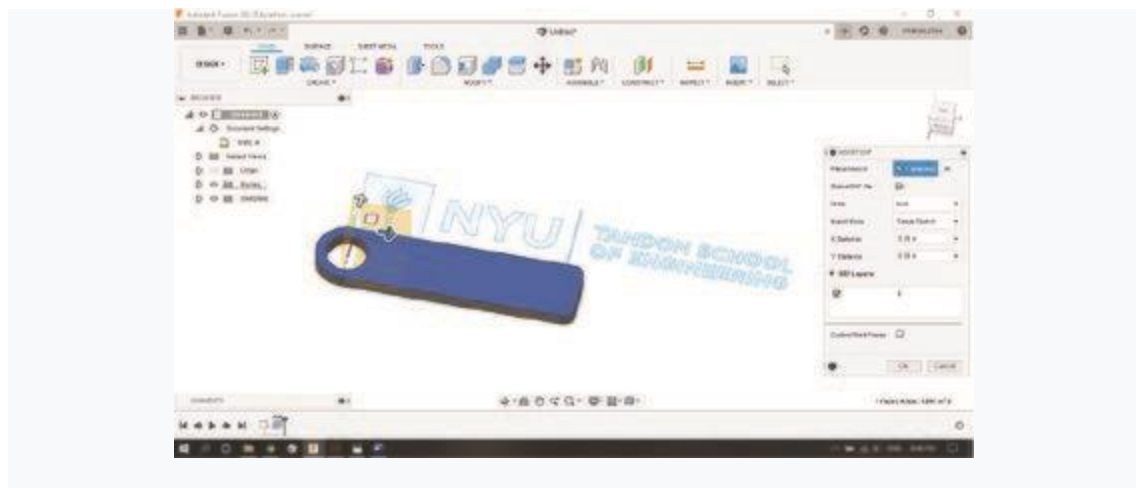

Figure 14: Beautiful Logo
- f. The logo should appear. (Figure 14)